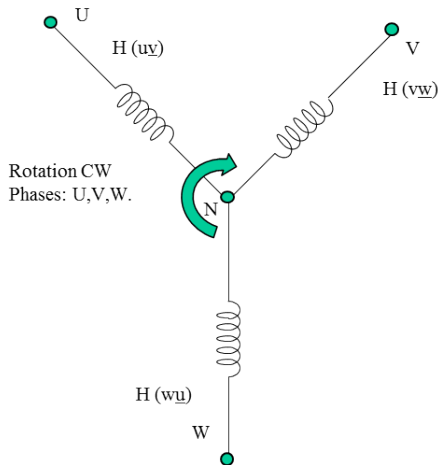
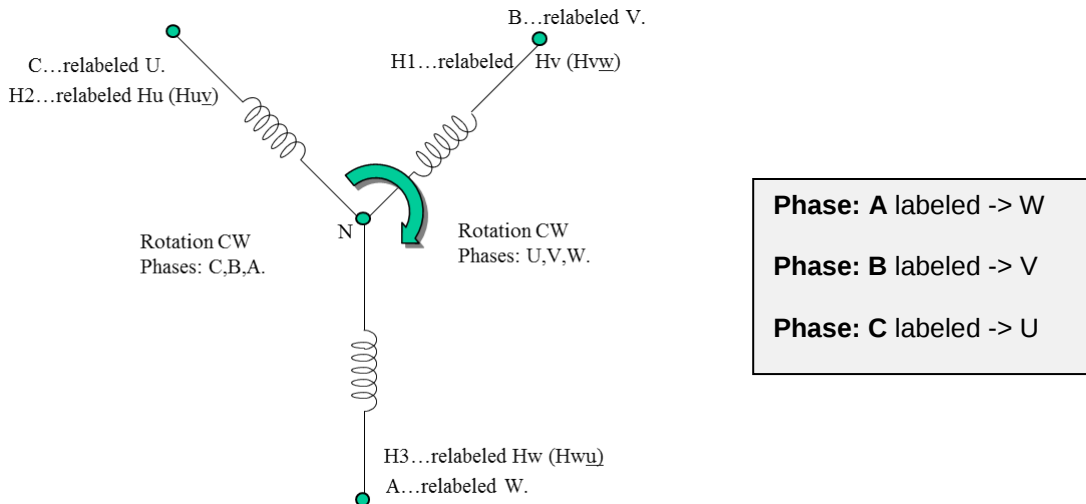

Figure 2a: Looking into the torque endbell (shaft) of the motor
Figure 4: Looking into the torque endbell (shaft) of the motor
- Motor phasing connections for any positive drive command (*torque, velocity or position*) are per **Figure 2a** above.
Condition I: Motor provided by manufacturer has BEMF phasing and Halls defined per **Figure 2a** above, and user desired positive direction is the same as the motor: CW looking into the torque endbell of the motor. *Reminder, this is CCW looking into the lead exit end of the motor.*
Condition III: Motor provided by manufacturer has Bemf phasing and Halls defined per **Figure 2b on Page 3** (CW viewed looking into the lead exit end of the motor). However the user's desired positive direction is the same per **Figure 2a on Page 3** (CW as viewed looking into the torque endbell of the motor) and our assumed drive convention.
In this case, the user's reference convention and desired direction of rotation are opposite. It is therefore best to re-label the Hall and motor phase wires / connections to present the subject per **Figure 2b motor on Page 3** (CW rotation viewed from the lead exit end), with the same reference convention of **Figure 2a motor on Page 3** (viewed looking into the torque endbell). In contrast, the **Figure 3 motor above** is presented with the desired physical reference looking into the torque endbell, but still shown with the opposite direction of rotation.
We will do this by simply bringing back the Bemf phase reference of each Hall signal, then flip direction by switching **Hall subscripts** noted on Page 2. Next, we substitute Hall subscripts: w for a, v for b, and u for c to match this white paper's convention per **Figure 2a on Page 2**.
Once Hall signal and motor phase re-labeling is complete, we will have the equivalent labeling per **Figure 2a on Page 2** and as shown per **Figure 4 below**.